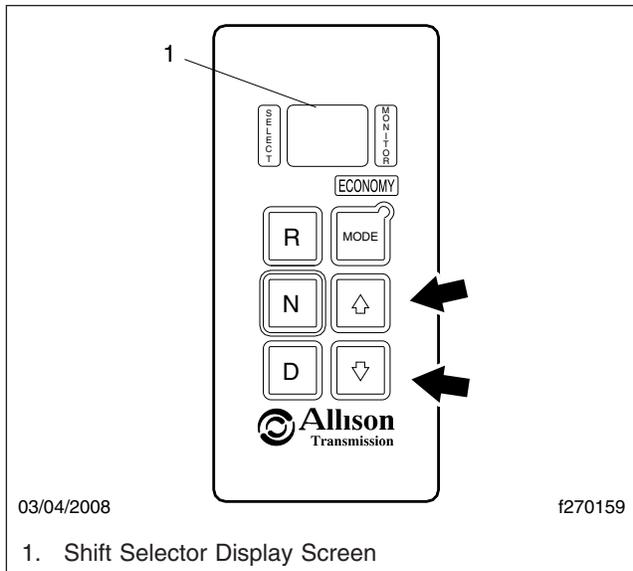

Fig. 6, Transmission Shift Selector
1. On the transmission shift selector, press the up and down arrow keys simultaneously. See Fig. 6.